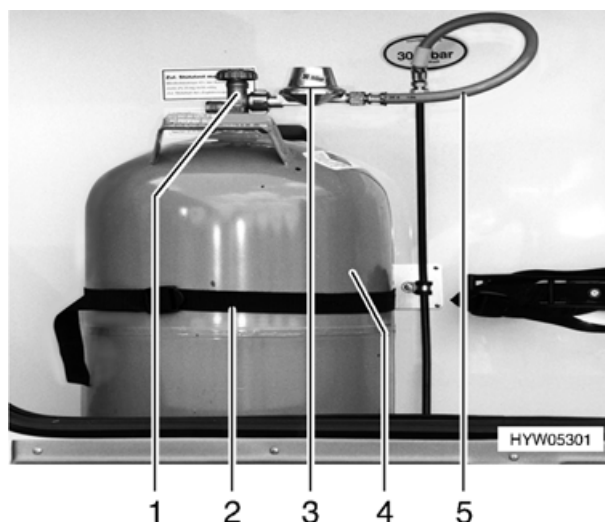

Fig. 55 Gas bottle compartment
- Close regulator tap (Fig. 55,1) on the gas bottle (Fig. 55,4). Pay attention to the direction of the arrow.
- Unscrew the gas pressure regulator (Fig. 55,3) with the gas tube (Fig. 55,5) from the gas bottle with a suitable gas spanner.
- Release the fixing belt (Fig. 55,2) and remove the gas bottle.